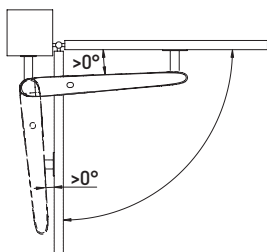

Figure 6. Required drive position relative to a leaf
- when a gate is closed or open, the drive should be at an angle to a leaf (fig. 6).